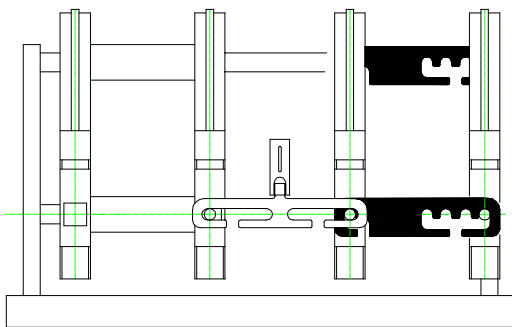

Figure 1. Configuration 2 moveable clamps + 2 fixed clamps clamp
- Two fixed clamps and two moveable clamps Fig. 1